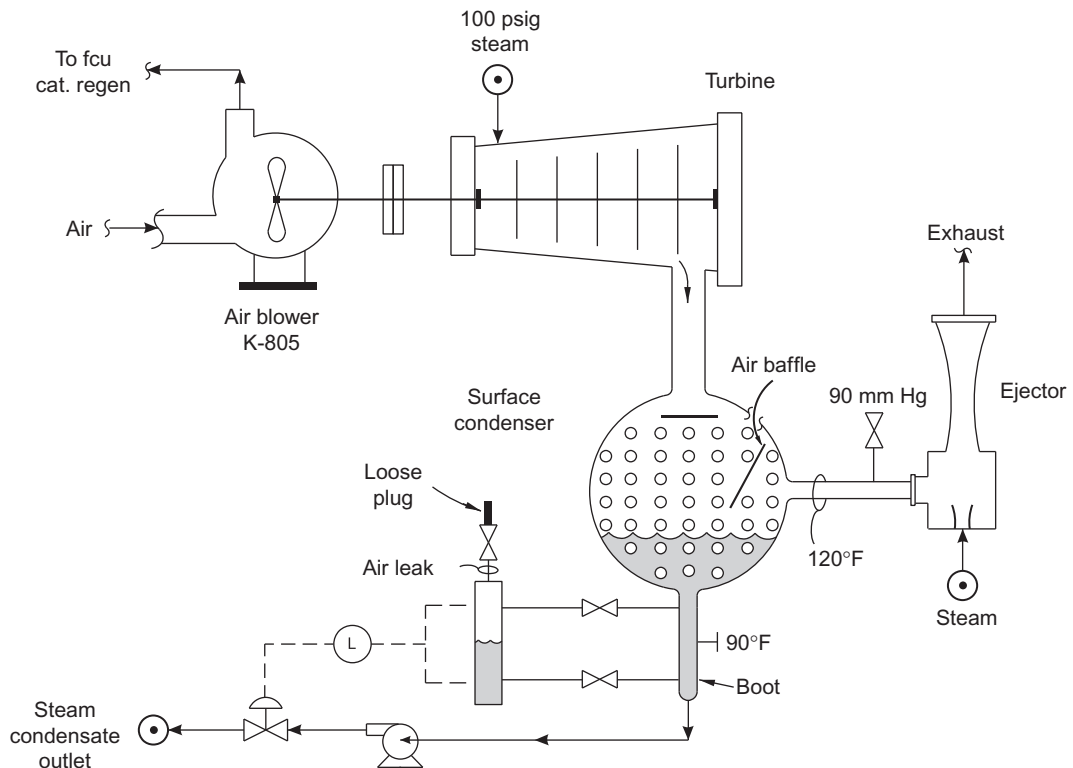

FIG. 26.2 Effect on condensate back-up in surface condenser slows FCU air blower speed.
Shell and tube heat exchangers all have internal surface area. So, the real meaning of the term surface condenser is that it has two outlets as shown in Fig. 26.2:
Now, refer to Fig. 26.2. Note that the pressure in the surface condenser vapor outlet (120°F) corresponds to the vapor pressure of water (90 mm Hg) at this vapor outlet temperature. This observation gave me a sense of confidence in my technical analysis.
I expected that the vapor outlet temperature should be the same or a bit lower than the water boot temperature. Lower because the vapor passes over several extra cooling tubes underneath the air baffle, as shown in Fig. 26.2. Typically, the effect of this air baffle is to
- The air leaking into the level glass (and the level control bridle—see Fig. 26.2) stopped.